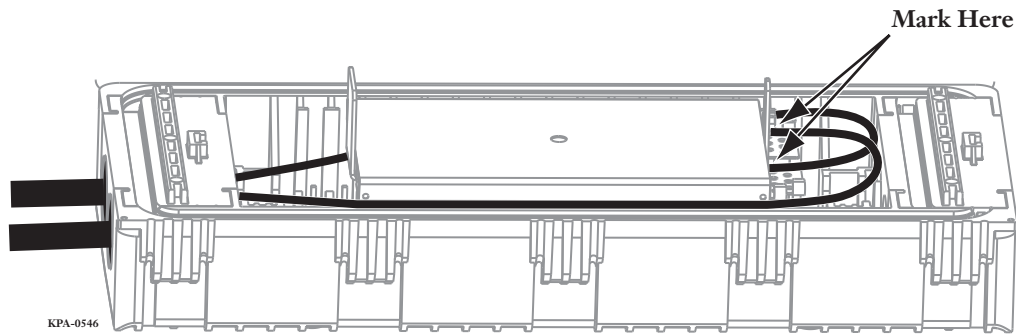

Figure 39
**Step 1:** Route the distribution ribbon to the lower right side of the splice tray near the center tab (Figure 39). Mark the ribbon where it enters the tray.